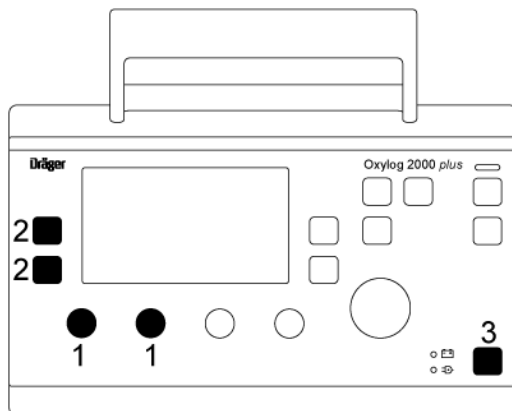

Fig. 2 Accessing the Customer Service Mode
- Turn the controls Fig. 2/1 fully clockwise.
- Switch on the unit by the key Fig. 2/3 and at the same time press and hold down the keys Fig. 2/2 until Customer Service Mode appears.